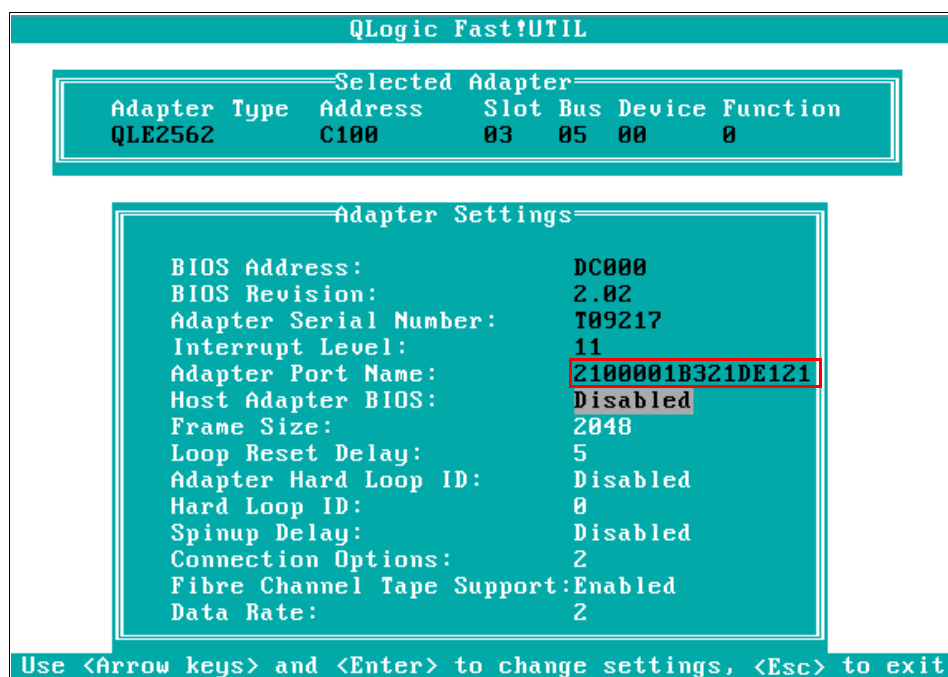

Figure 5-46 Note WWPN
6. Make a note of the adapter's Worldwide Port Name (WWPN), as shown in Figure 5-46.